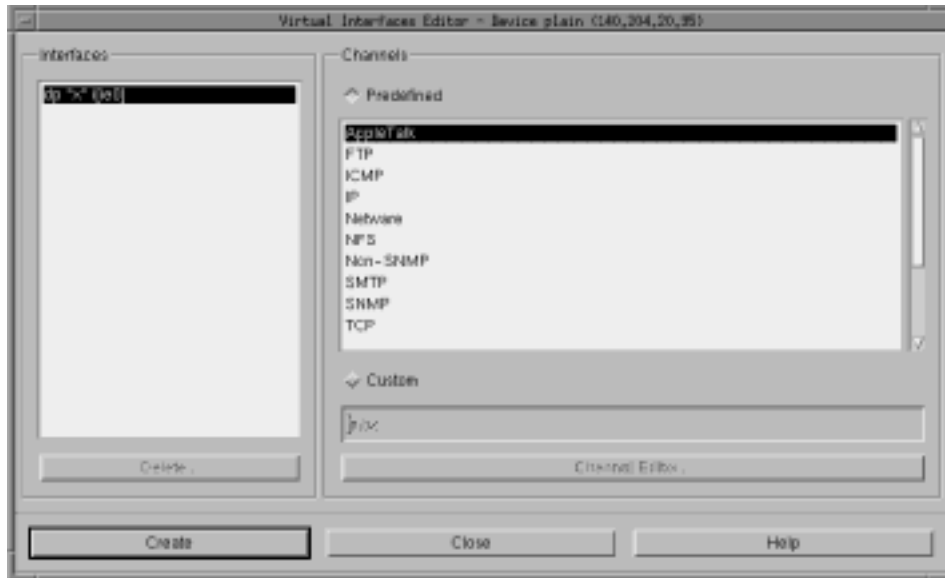

Figure 14. Virtual Interfaces Editor Dialog Box
2. Click **Virtual Interfaces** to open the Add Virtual Interface Editor dialog box, shown in Figure 14 on page 38.